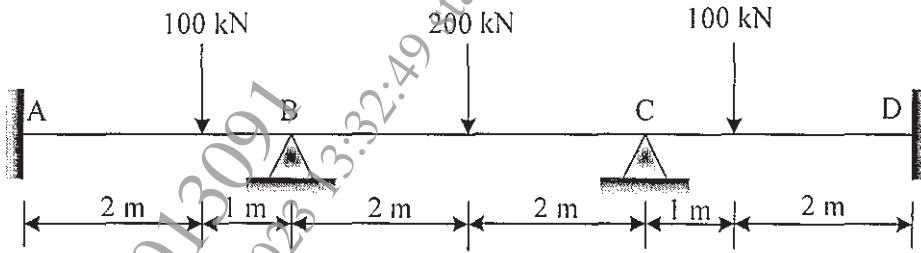

Fig. 9
- b) Analyse the continuous beam ABCD as shown in Fig. 9 by stiffness method and draw bending moment diagram. Assume uniform flexural rigidity. [11]